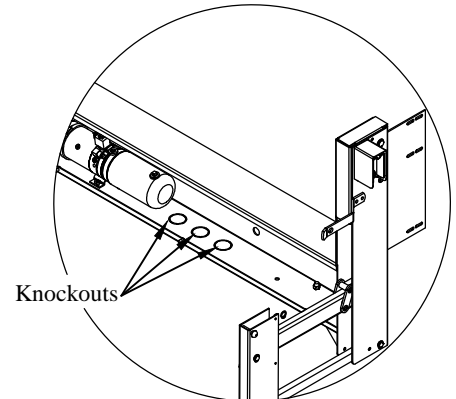

Figure 11: Knockout hole location.
2. **Remove** the 2-1/4" knockouts from the bottom of the mainframe using a screw driver and a pair of pliers (Figure 11).